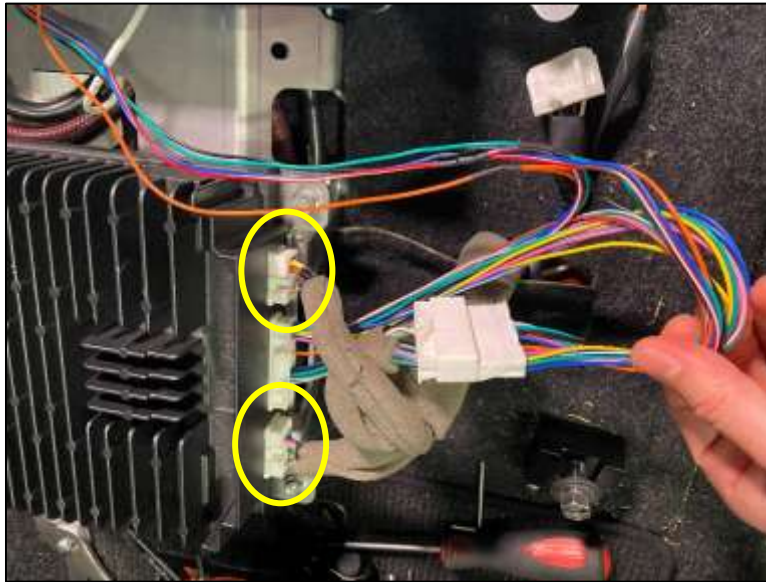

Figure 21
27. Reconnect the other (2) two OE Harnesses to the OE Amp. *Figure 21.*